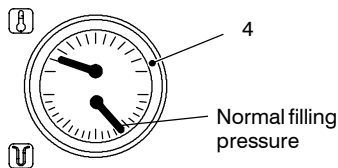

Fig. 2.2
Ensure that the c.h. circuit is regularly filled with water (even if the boiler is only used for d.h.w. supply) checking that the pressure indicated on the temperature and pressure gauge 4 is not lower than that shown in Fig. 2.2.
If the pressure reading on the pressure gauge is below that shown in Fig. 2.2, then the system will require topping up. A filling loop is normally provided by the installer for this purpose.
- 2 Open the valves of the filling loop and watch the gauge until it reaches normal filling pressure as shown in Fig. 2.2.
you should check that the pressure on the temperature and pressure gauge (Fig. 2.2 on page 4) is not below the correct setting.